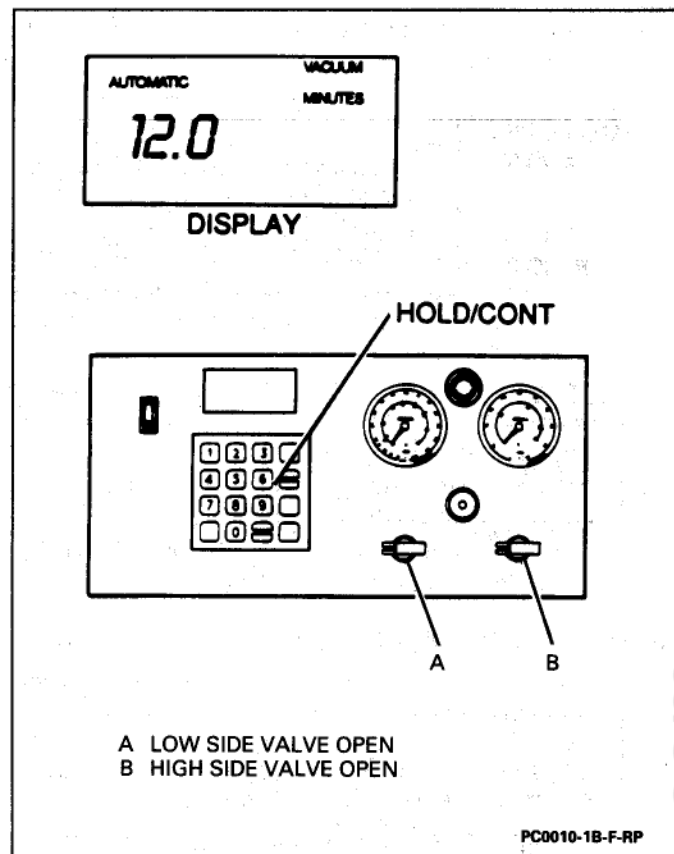

Figure 11 – System Evacuation (2 of 2)
4. At approximately the 12-minute mark on the display (pump has run for three minutes), press “HOLD/CONT” key to stop vacuum pump (Figure 11).